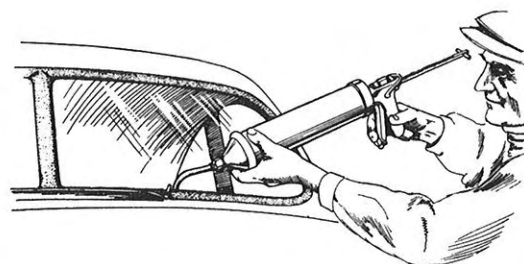

Fig. 5. Sealing of windshield weather strip
10. Apply sealing compound all round between rubber strip and glass, see Fig. 5, and between strip and body.